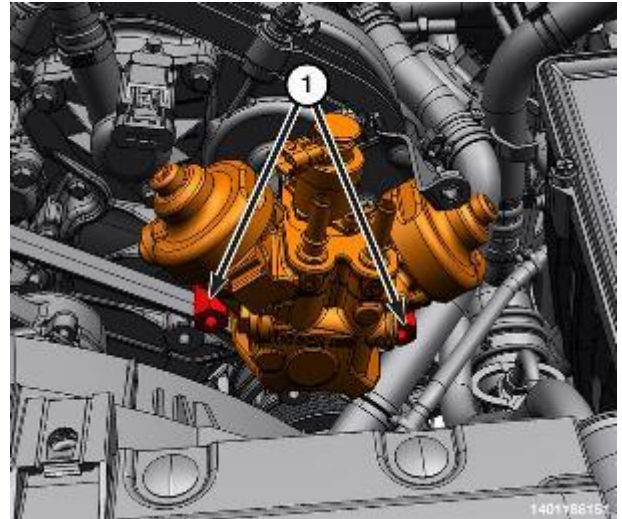

Figure 193 – HPFP Upper Bolts
- 36. Remove the fuel injection pump upper bolts (1) from the fuel injection pump (Figure 193).
48. Remove the Tool, High Pressure Pump Installation VM.10345 and install the high-pressure fuel injection pump upper bolts (Figure 193).